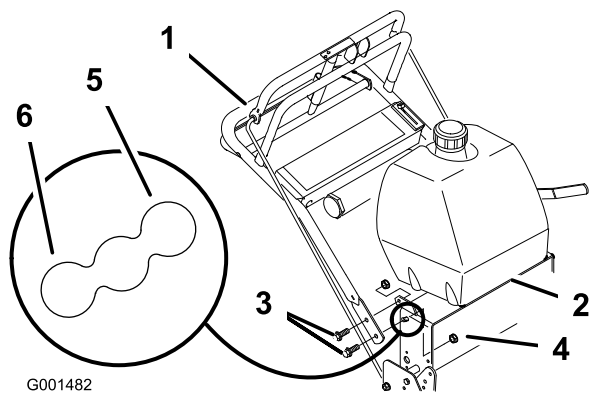

Figure 21
2. Loosen the upper flange bolts (3/8 x 1 inch) and flange nut securing the handle to the rear frame (Figure 21).
- Remove the lower flange bolts (3/8 x 1 inch) and flange nuts securing handle to rear frame (Figure 21).